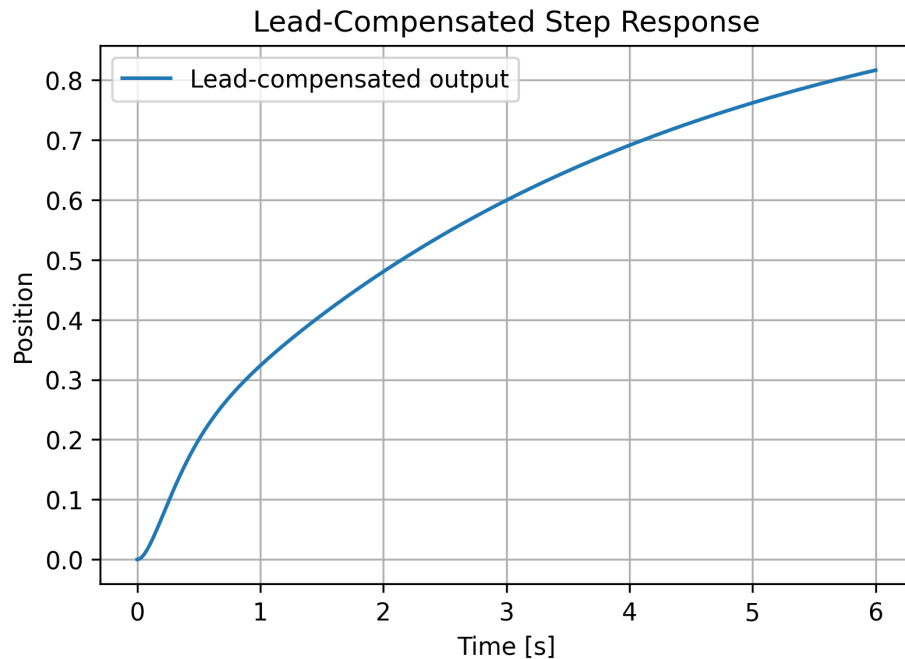

Figure 5.1: Lead-compensated step response created by `python -m scripts.tutorials.classical`.
4. Run `python -m scripts.tutorials classical --output-dir figures` to generate comparison plots such as Figure 5.1.